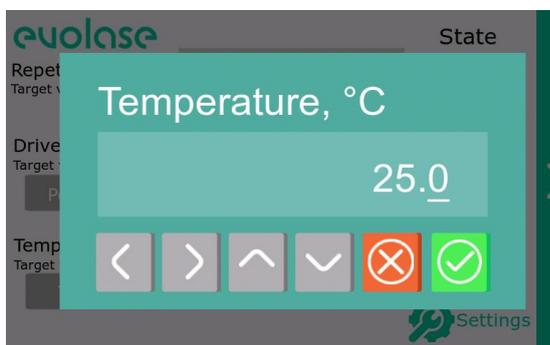

Figure 20 – Temperature setting
8. Tap on temperature value to set the laser diode temperature (fig. 20). Use the left and right arrows to select the digit to change, use the up and down arrows to change the value. Press button to save the changes and exit menu. Press button to exit menu without changes.